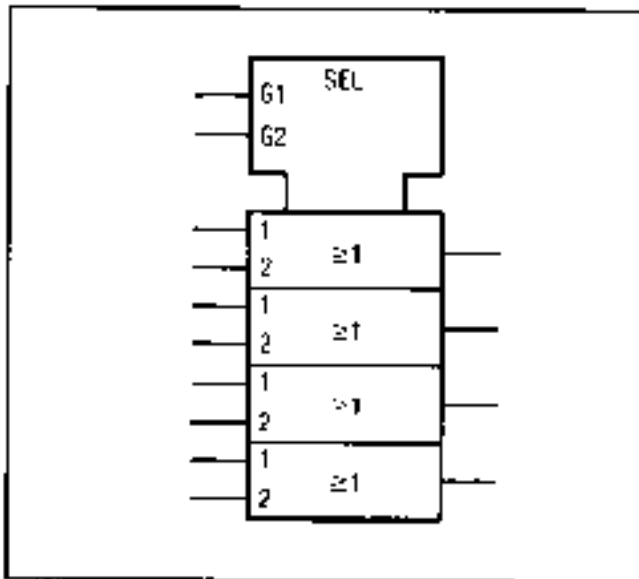

Figure 8-11. AND-OR Selector
**AND-OR Selector.** The selector control block simplifies the AND portion of a quad AND-OR select gate (see Figure 8-11). When G1 is high, the data presented at the "1" inputs is gated through. When G2 is high, the data presented at the "2" inputs is gated through.